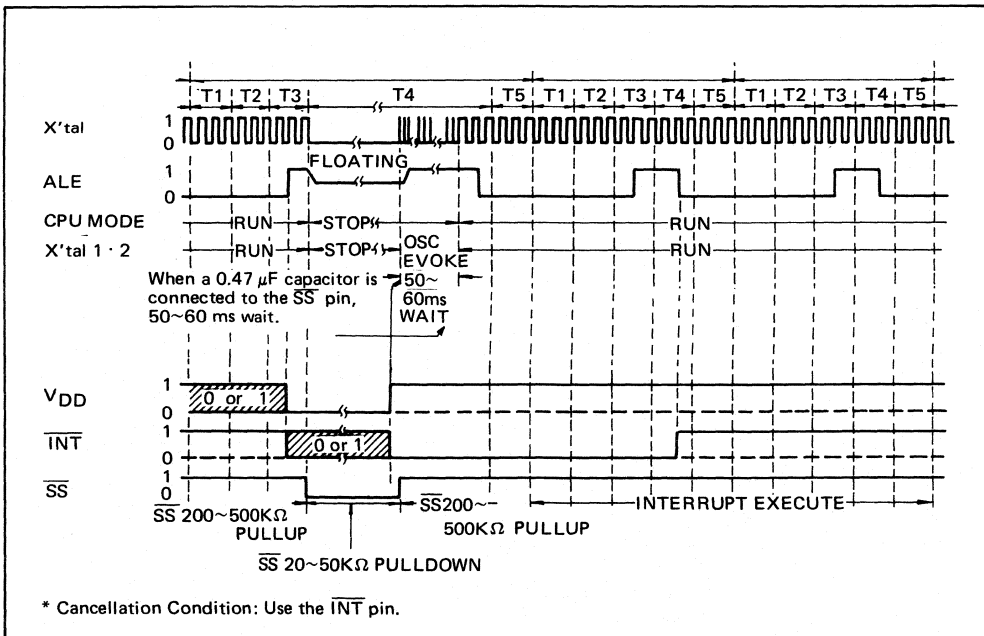
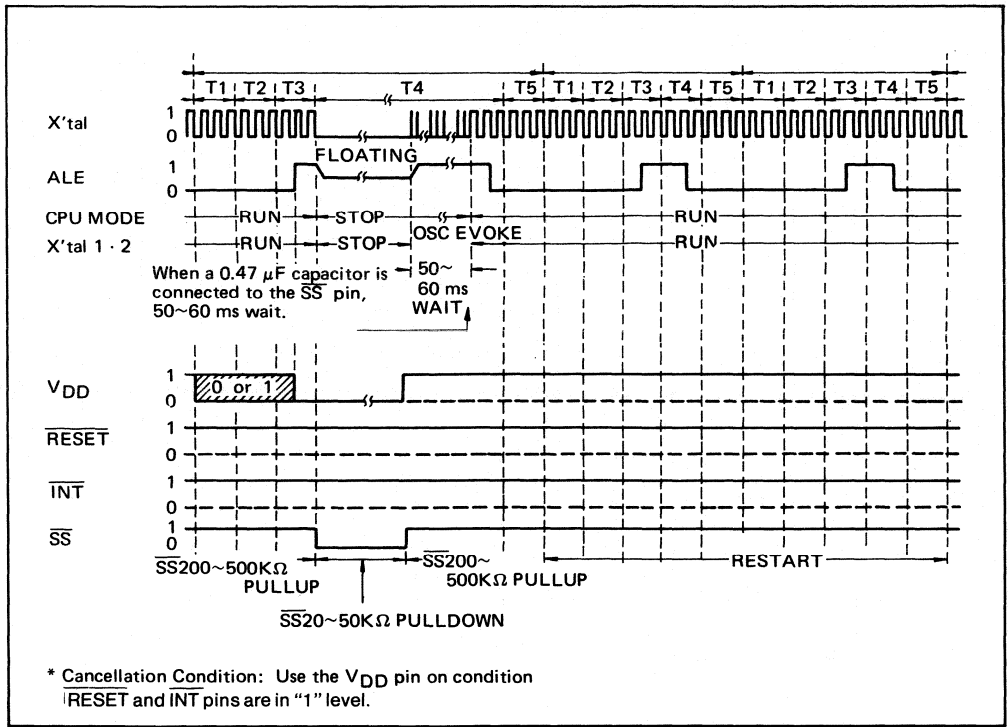

Fig. 4-6 Hardware Power-Down Mode Timing Chart
Fig. 4-7 Hardware Power-Down Mode Timing Chart
However, if the power-down mode is started during an interrupt processing routine, execution will be continued on the next instruction after the present instruction. The timing chart is outlined in Fig. 4-6.
- (3) Use of the $\overline{\text{INT}}$ pin during external interrupt disabled mode (i.e. following execution of DIS I instruction or hardware reset)
- The clock generator is activated and the CPU started up when a "1" level is applied to the V_{DD} pin while a "0" level is applied to the $\overline{\text{INT}}$ pin. If this "0" level is maintained until at least 2 ALE output signals occur, execution is continued on the next instruction after the present instruction. The timing chart is outlined in Fig. 4-6.
- (4) Use of V_{DD} pin only
- The clock generator is activated and the CPU started up when a "1" level is applied to the V_{DD} pin while a "1" level is also applied to both the $\overline{\text{RESET}}$ and $\overline{\text{INT}}$ pins. In this case, execution is resumed from the stopped position. The timing chart is outlined in Fig. 4-7.